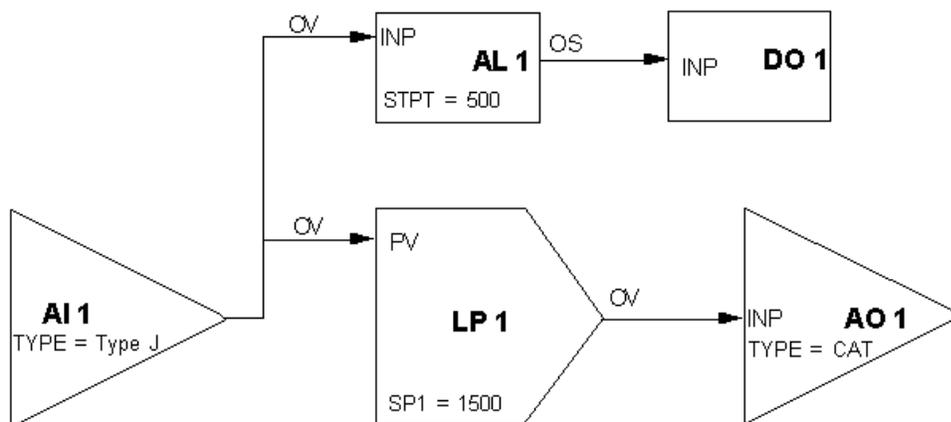

Figure 5-1 Sample Function Block Connections
Figure 5-1 diagrams an example of the way function blocks can be linked to implement a control strategy.
Table 5-1 Programming Required to Accomplish Connections in Figure 5-1
Any block's output value, including the AI output value (OV), can be used as source of the input to more than one function block simultaneously. As our example in Figure 5-1 shows, the AI OV is usually read by a loop (LP) block. AI OV is also frequently used as the input to one or more alarm (AL) blocks.